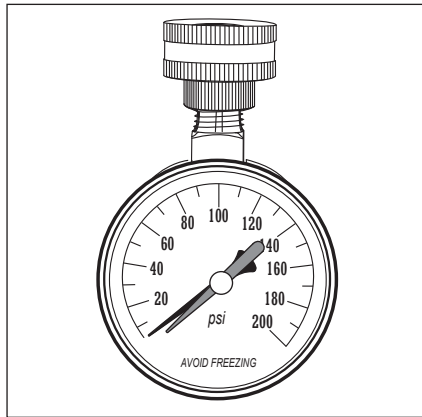

Figure 4 - Use a Water Pressure Gauge to make sure your home's water pressure is not too high.
- Water Pressure Gauge (Figure 4 on page 9)
We recommend checking your home's water pressure with a pressure gauge (Figure 4). Most codes allow a maximum incoming water pressure of 80 psi/551 kPa. We recommend a working pressure no higher than 50-60 psi/345-414 kPa.